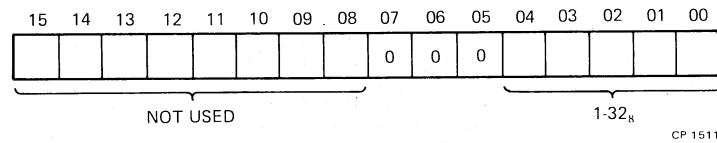

Figure 4-27 RX2SA Format (RX211/RXV21)
4.3.2.4 RX2SA – RX Sector Address (Figure 4-27) – This register is loaded to indicate on which of the 32_8 ($1-26_{10}$) sectors a given function is to operate. It can be addressed only under the protocol of the function in progress (Paragraph 4.3.3).